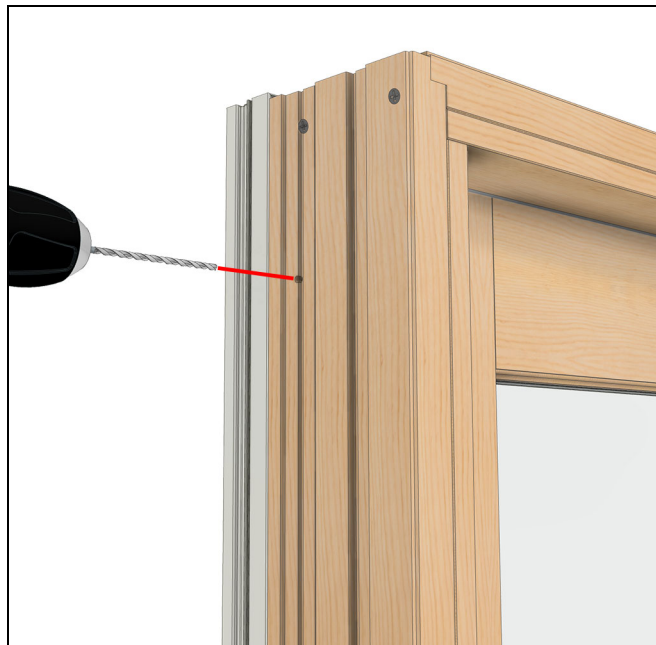

Figure 23
3. While holding the panel in place, drill into the panel with a 1/8" drill bit at the pre-drilled hole locations in the jamb. See Figure 23.